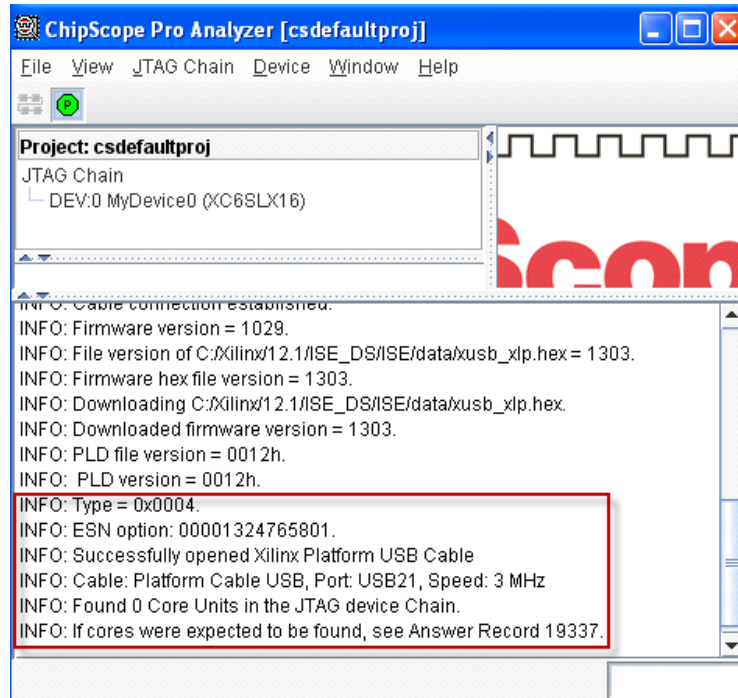

Figure 5: JTAG Chain Connection Data
4. Confirm the connection to the JTAG chain by verifying the information that appears in the bottom pane of the ChipScope Pro Analyzer window, as illustrated in Figure 5, page 14.